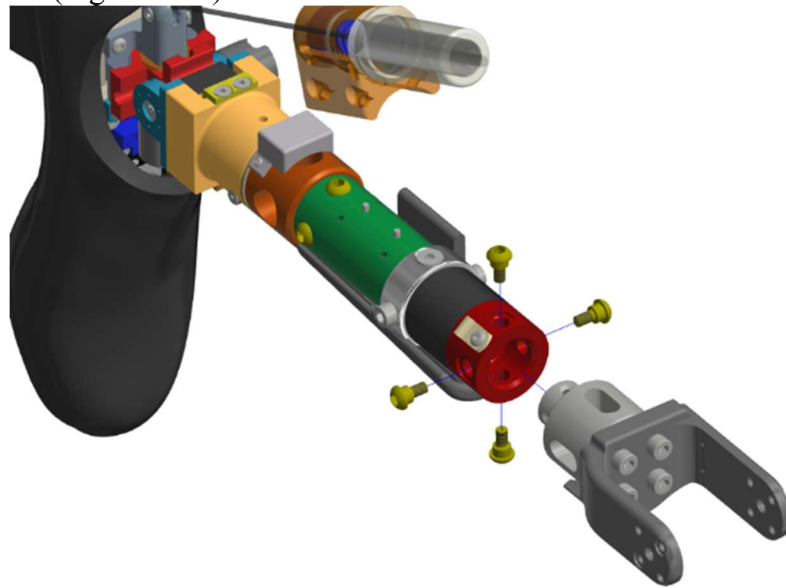

Figure 10-8. Separate the Upper Tibia Load Cell (SA572-S103) from the Tibia Compliant Element Assembly (474-5508)
10.2.4 Separate the Upper Tibia Load Cell (SA572-S103) from the Tibia Compliant Element Assembly (474-5508) by removing four Modified BHSS M6 Thread (Figure 10-8).